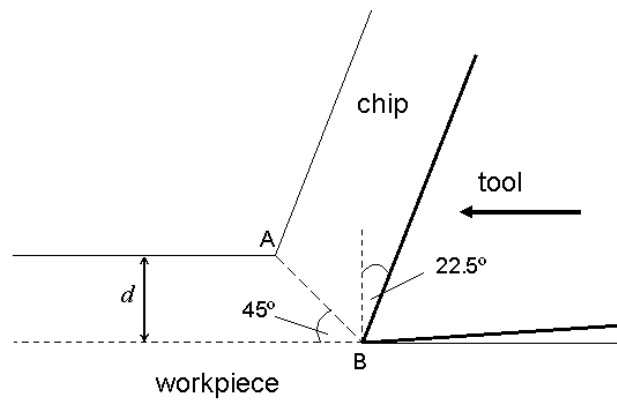

Fig. 2.
(b) Fig. 2 shows a possible deformation pattern for orthogonal machining by a tool with a rake angle of 22.5° , moving towards the left with a depth of cut d . The workpiece material is assumed to shear at a shear yield stress of k on the plane AB at an angle of 45° to the workpiece surface.
- (iii) For the model shown in Fig. 2, estimate the maximum temperature rise in the chip for the machining of steel, if frictional heating is ignored. State your other assumptions.